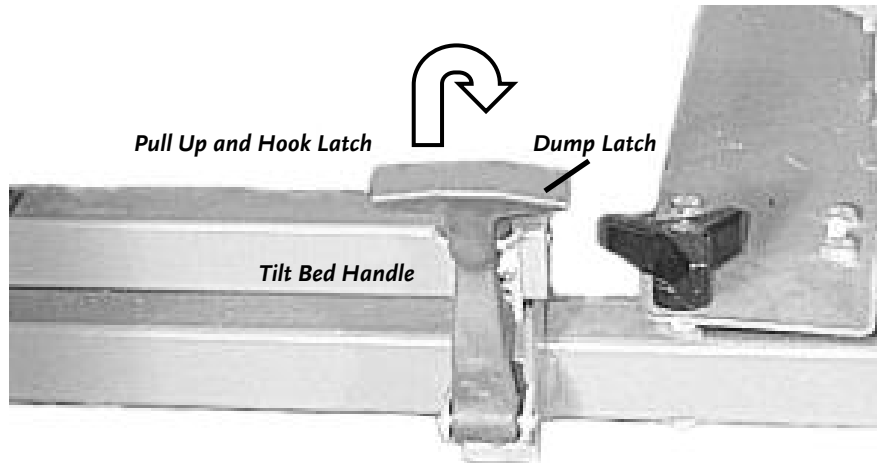

Figure 21
2. Make sure the Collector Box tilt bed is secured down by the latch (**Figure 21**), and the Collector Box Inlet Hose is latched in place (**Figure 11** on page 18).